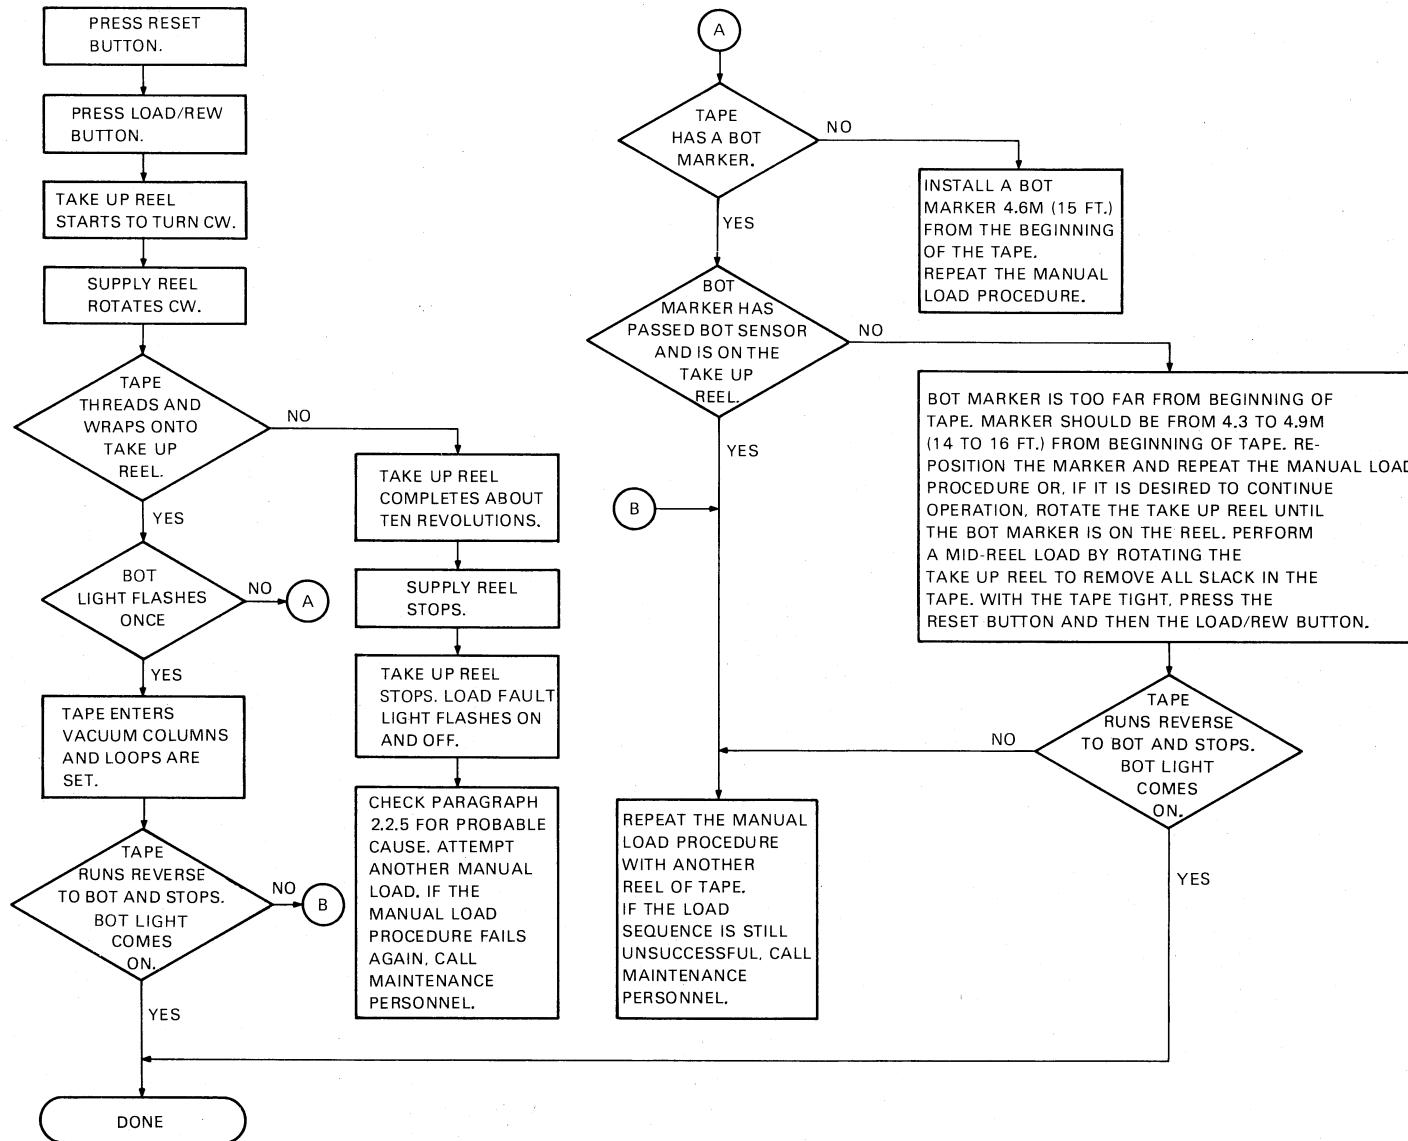

Figure 2-6 Manual Load Sequence with Operator Troubleshooting
7. Follow the instructions and check for the events specified in Figure 2-6. If the tape fails to load properly, the figure contains some operator troubleshooting hints that can be tried before maintenance personnel are called. Refer to Figure 2-5 to identify tape path components.